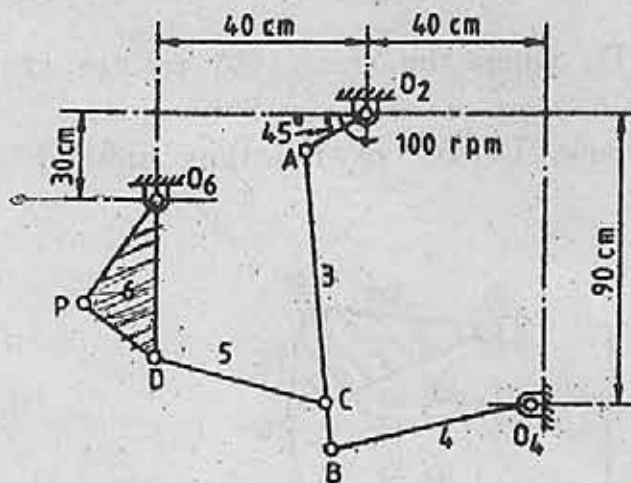

Fig. 3
4. For a stone crusher mechanism as shown in Fig. 3, determine the angular velocity of link 5 and 6. Also determine the velocity and acceleration of point "P" in link 6. Assume crank 2 is